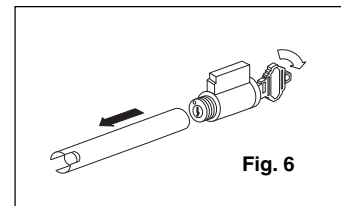
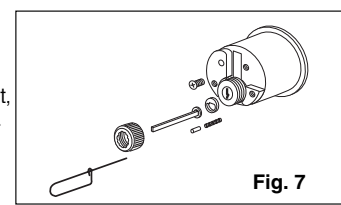

Fig. 6
Fig. 7
- Once cylinder plug is completely inserted, align pins by turning cylinder plug 1/8 of a turn to an upright (or vertical) position. (Fig. 6) Place spring, pin and tailpiece in cylinder and rescrew cap. Replace cylinder housing in lock assembly. Test and remove key. (Fig. 7)